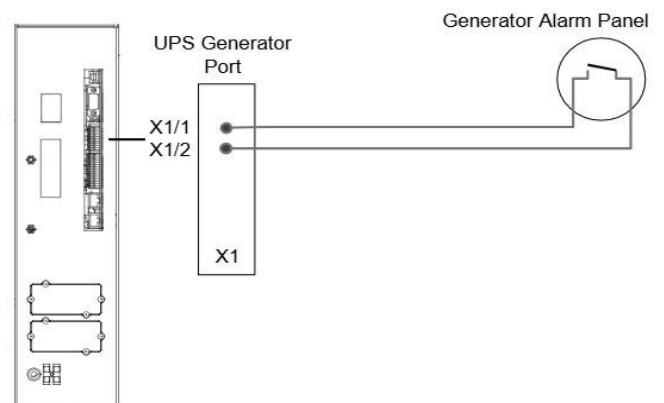

Figure 8.4 Generator ON Connection
2. Connect the cable as shown in *Figure 8.4*.